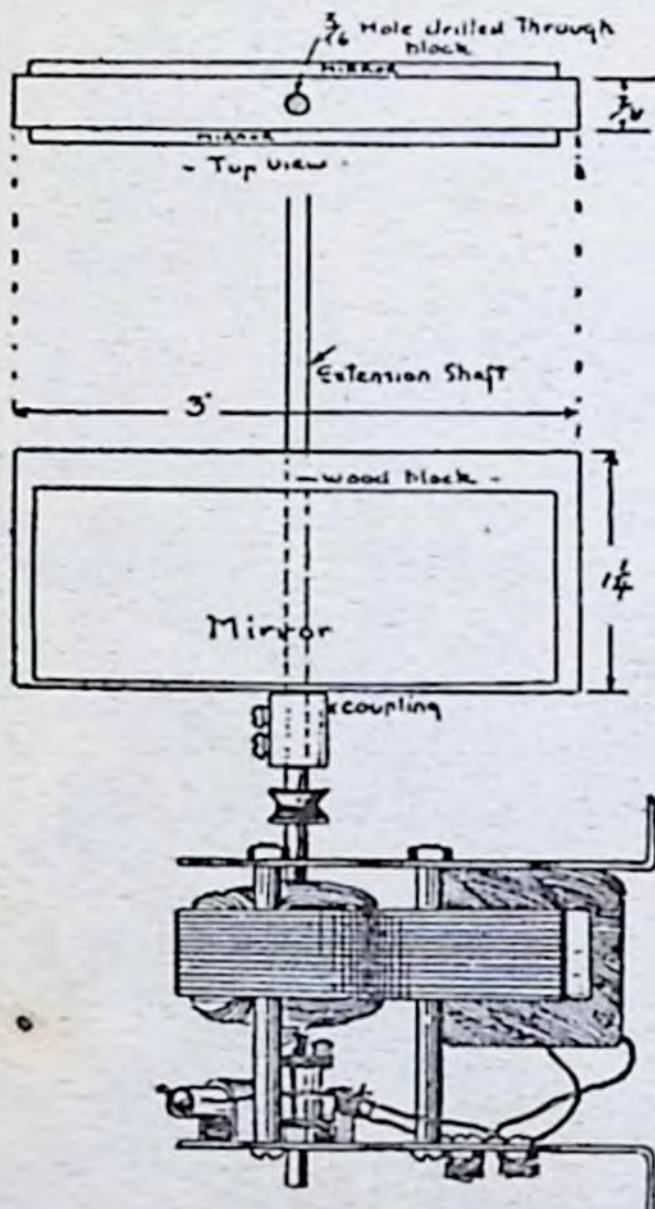

Fig. 37
(43) THE VIBRATING FLAMES: Cut out a piece of wood  $\frac{3}{8}$  inch thick, 1 inch wide, and  $2\frac{1}{2}$  inches long, and drill a  $\frac{3}{16}$ -inch hole through the center of it, as shown in Fig. 37. Now fasten mirrors to each side of the block with gummed paper and then mount it on